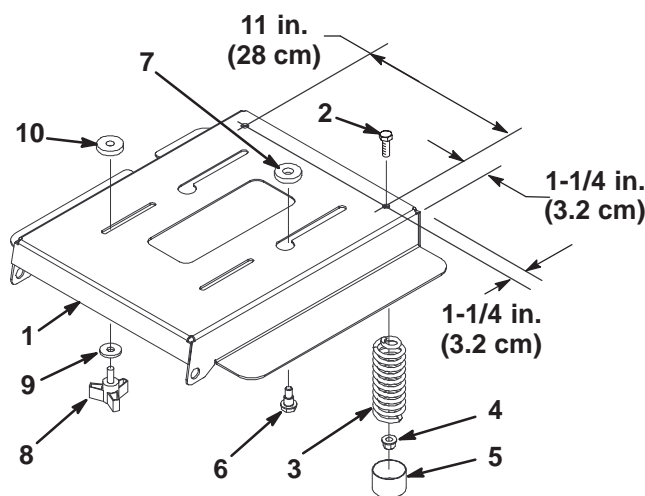

Figure 1
3. Lower the seat support. Locate, mark, and drill 2 (11/32 in.) holes in the seat plate as shown in Figure 1.
4. Attach the springs to the seat support with the 2 screws (5/16 x 1 in.) and locknuts (Fig. 1).
7. Slide the shoulder bolts on the bottom of the seat into the slots on the seat support (Fig. 1).
8. Slide the nylon spacers (11/32 in.) between the seat and seat support and secure the seat to the seat support with the knobs and washers (Fig. 1).